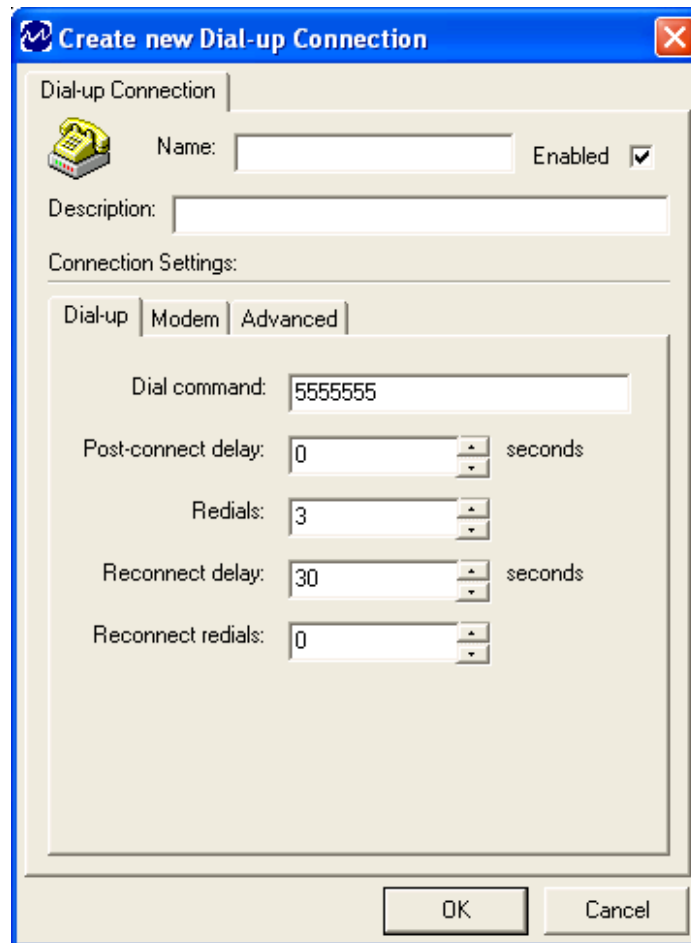

Figure 34 - Create New Dial-Up Connection Window - Dial-Up Tab
The **Create New Dial-up Connection - Dial-up** tab (Figure 34) includes dial command, delays, and redials settings.
5. The **Create New** window appears (Figure 34).